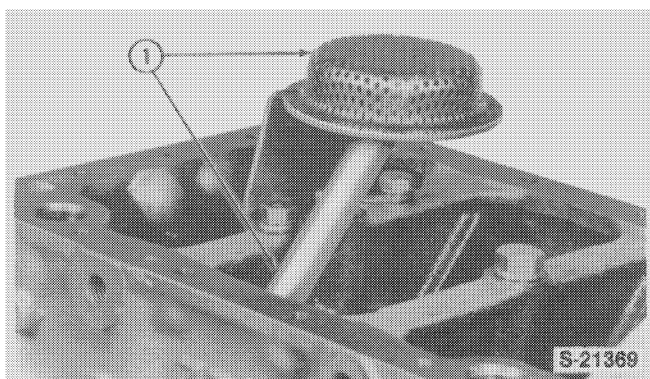

FIGURE 1-78
3. Remove the oil pump suction tube and screen, Figure 1-78.